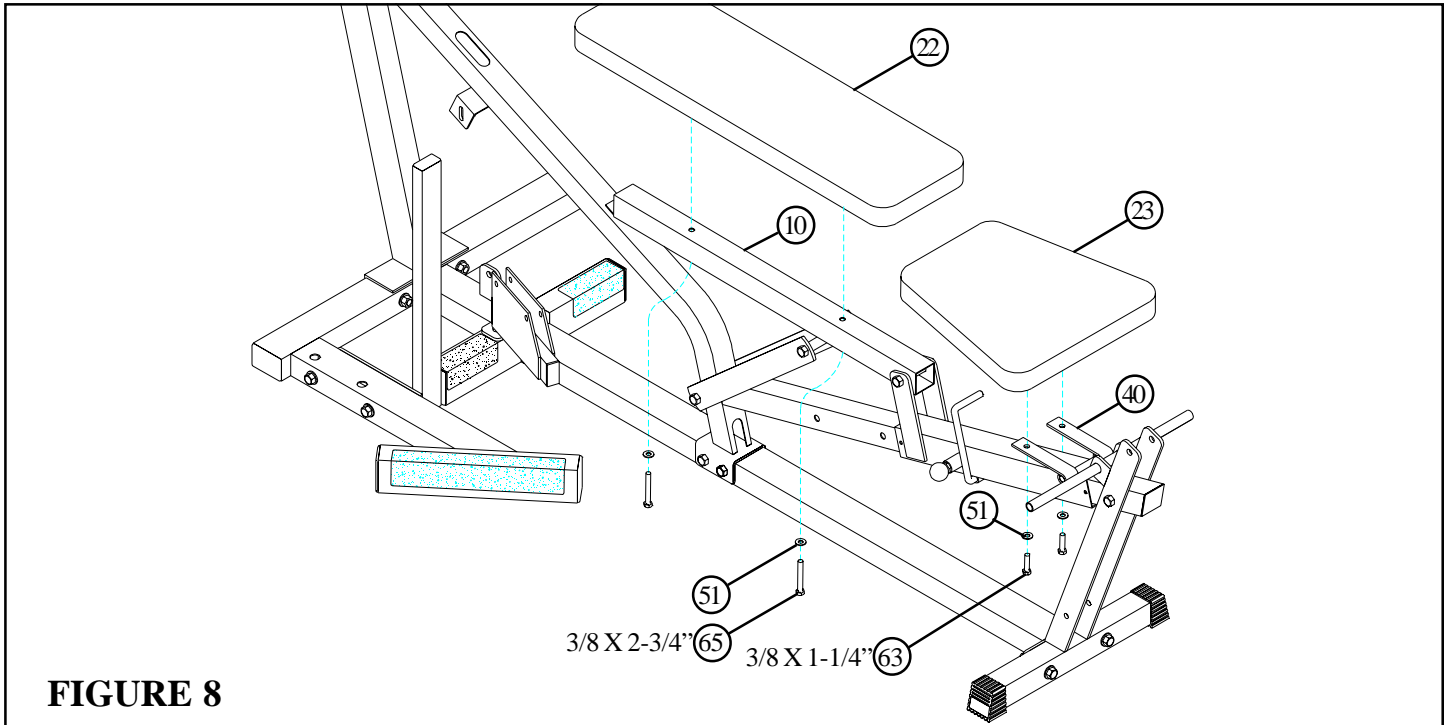

**FIGURE 7** (69) 1/2 X 5-1/2" (68) 1/2 X 4"
- Attach BACK PAD SUPPORT (10) to the WOLFF SLEEVE (12) using one 1/2 X 4" BOLT (68) and one 1/2" LOCK NUT (53). (**NOTE: Securely tighten, then back nut off 1/4 turn to allow the BACK PAD SUPPORT (10) to rotate freely.**) See FIGURE 7.
- Attach both 2 X 16-1/2" PLATES (14) to the bushing on the BACK PAD SUPPORT (10) using one 1/2 X 5-1/2" BOLT (69) and one 1/2" LOW HEIGHT LOCK NUT (54). (**NOTE: Securely tighten, then back nut off 1/4 turn to allow the 2 X 16-1/2" PLATES (14) to rotate freely.**)
- Slide one HINGE TAB (40) on each side of shaft on WOLFF SLEEVE (10) as shown in FIGURE 7.
- Stick one 1-1/4" RUBBER BUMPER (70) on the BENCH FRAME (2) where it makes contact with the BACK PAD SUPPORT (10).